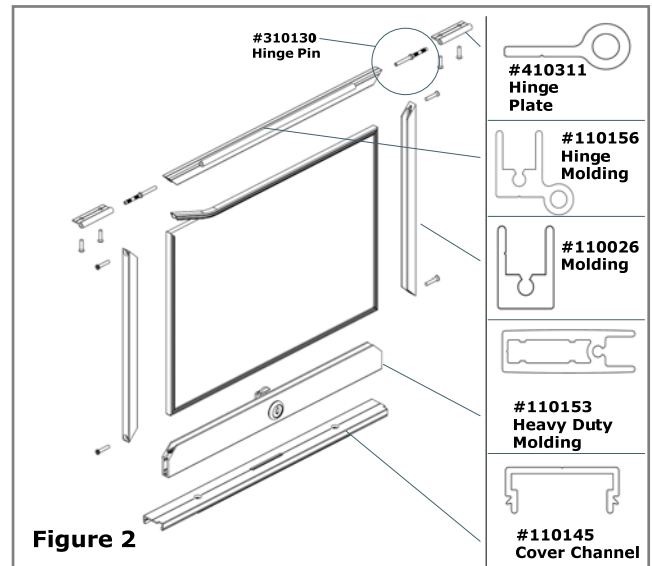

Figure 2
1. Position glazing tape on all four sides of the ¼" panel. Tap door molding into place with rubber mallet. After glazing, secure frame with #6 screws (part #212017). **See Figure 2.**
2. Fasten the cover channel with lock slot to the bottom of the door opening with #8 flat head screws | (part #212030). **See Figure 2.**
3. Place the knurled ends of the hinge pins into the hinge plates. Place hinge pins with plate into the extruded hinge molding located at top of the door. Place door assembly into door opening. Fasten door assembly with hinge plates to door with header screws from the accessory package. **See Figure 2.**